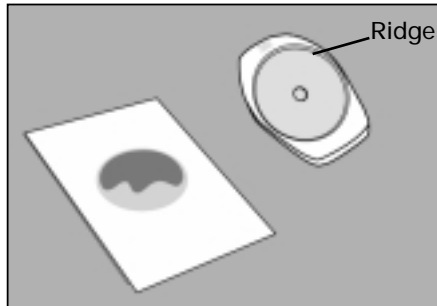

Figure 5
5. With the flat side down (not the side with the circular ridge), place the spreader on the top film over the inoculum (fig. 5).